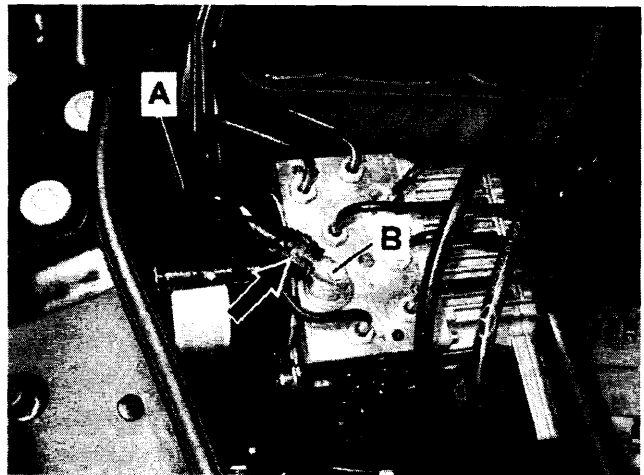

Figure 19
- Position bracket (A) on SBC hydraulic unit, reinstall self tapping screw (arrow) and **torque to 7 Nm.**
22. Connect SBC suction hose (A, Figure 19) to SBC hydraulic unit fitting (B); refer also to WIS: AR42.46-P-0010R steps 12 – 16.